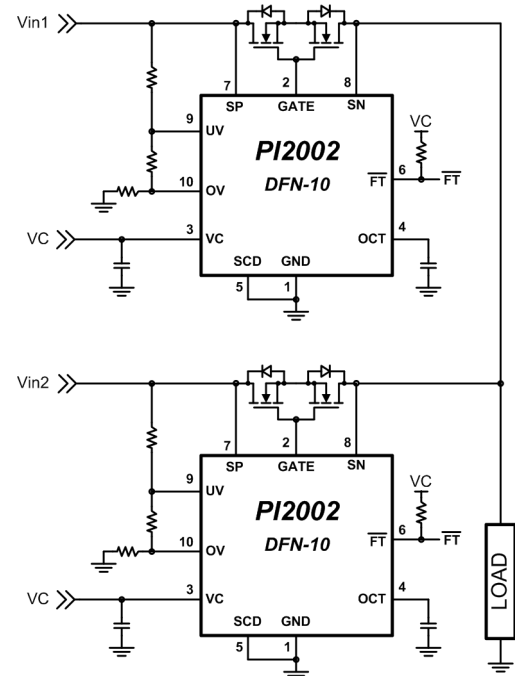

Figure 19: High side Active ORing function.
1. A single PI2002 with two suitable external MOSFETs for each redundant 3.3V power source should be used, configured as shown in the circuit schematic in Figure 19